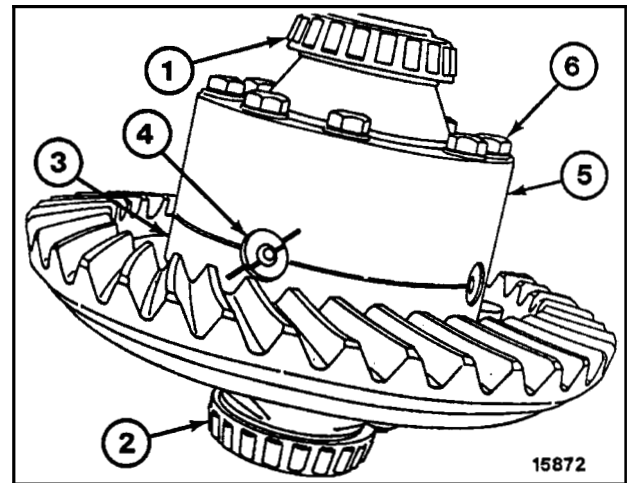

Figure 86
- Using a suitable puller remove bearing cones (1 and 2, Figure 86) from differential assembly halves.
- Match mark flanged case half (3), differential spider (4), and plain case half (5) as shown with a diagonal match mark. This style of match mark will ensure that differential is properly reassembled.
- Remove bolts and plain washers (6) holding case halves together. Remove plain case half.